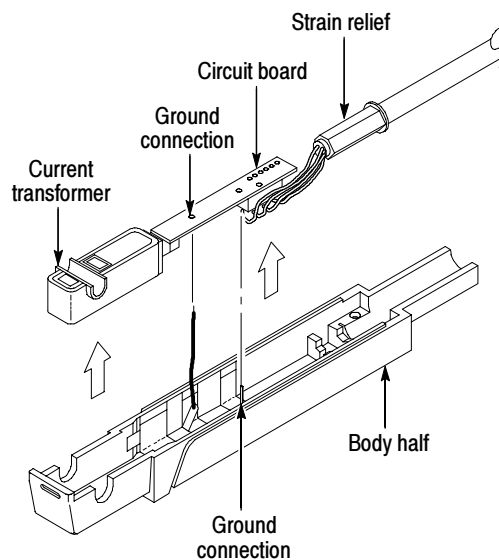

Figure 15: Removing the current transformer and cable assembly of the A6302 probe
2. To remove the cable assembly, unsolder the two connections on the circuit board then lift the strain relief and circuit board from the body half. Refer to Figure 15.